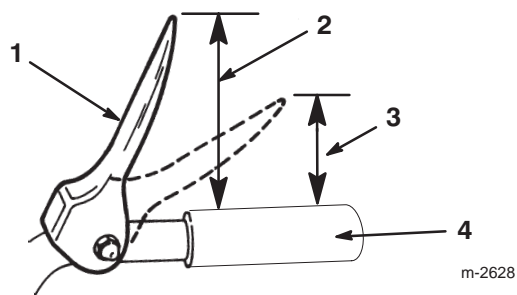

Figure 9
3. Adjust the flange locknut up or down on the upper traction rod until the distance between the top of the handgrip and the bottom of the traction control lever is approximately 5 inches (12.7 centimeters) as shown in Figure 9.
Note: The adjustment is correct when the wheels stop rolling backward and the distance between the top of the handgrip and the bottom of the traction control lever is 3 to 4 inches (7.6 to 10.2 centimeters) as shown in Figure 9.